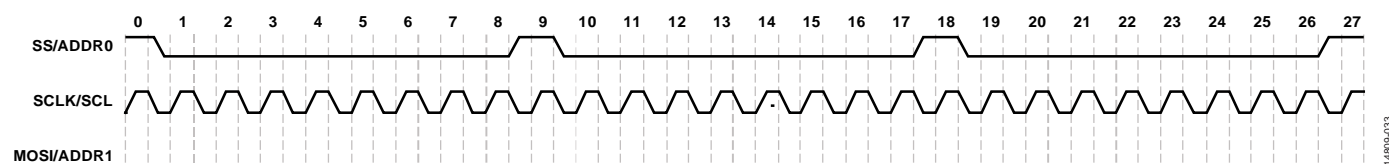

Figure 32. Example of SPI Slave Mode Initialization Sequence Using Dummy Writes
- Performing three dummy writes to the SPI port, writing any arbitrary data to any arbitrary subaddress (the slave port does not acknowledge these three writes). An example of dummy writing is shown in Figure 32.